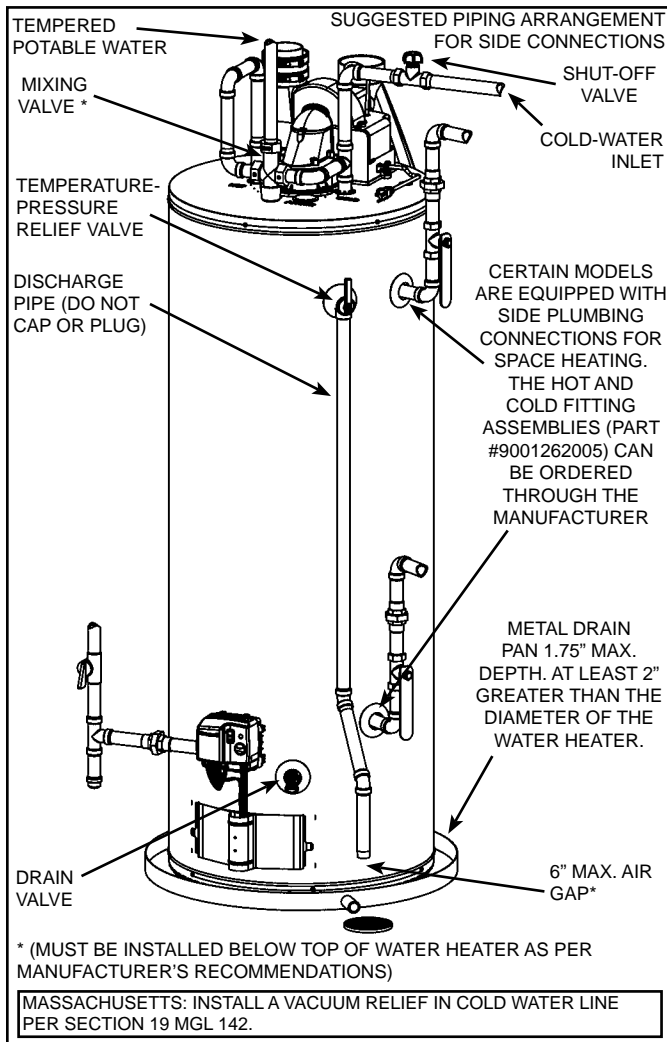
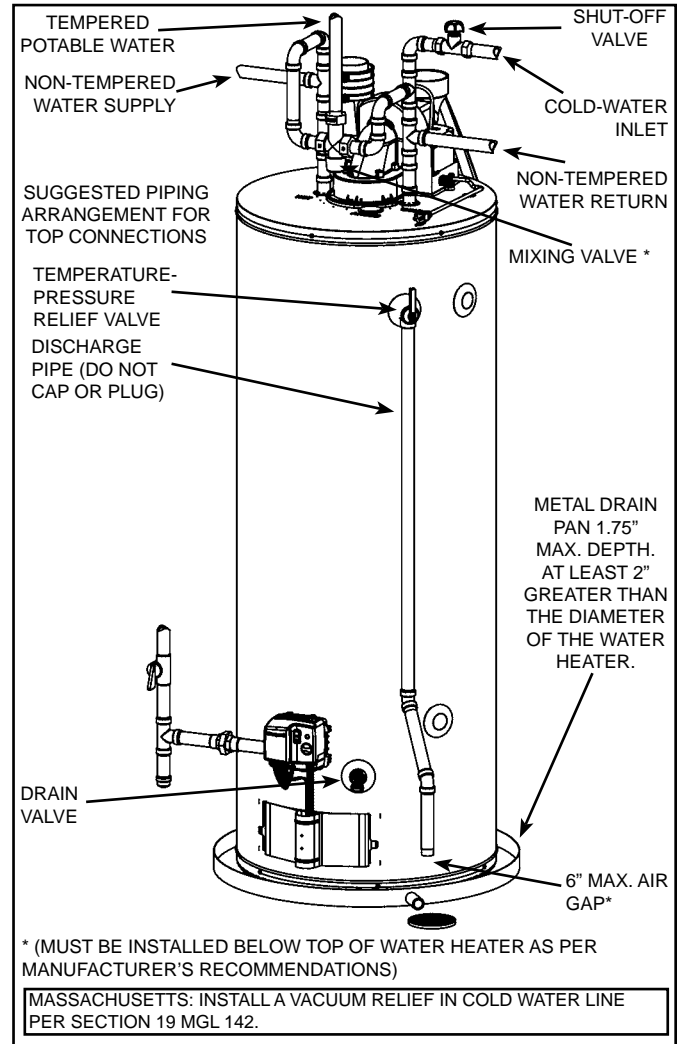

Figure 7.
Figure 8.
Models equipped with Combo Heating capabilities have the two side plumbing taps plugged (item 7 and item 10 in Figure 1 and see also Figure 7 & Figure 8). If the heater is to be installed in a Combo Heating application, these plugs must be removed.
In addition to using lowest possible temperature setting that satisfies demand of application, a mixing valve should be installed at water heater (see Figure 7 & Figure 8) or at hot-water taps to further reduce system water temperature. Mixing valves are available at plumbing supply stores. Consult a Qualified Installer or Service Agency. Follow mixing valve manufacturer’s instructions for installation of the valves. Before changing the factory setting on the thermostat, read the “Operating The Temperature Control System” section in this manual.